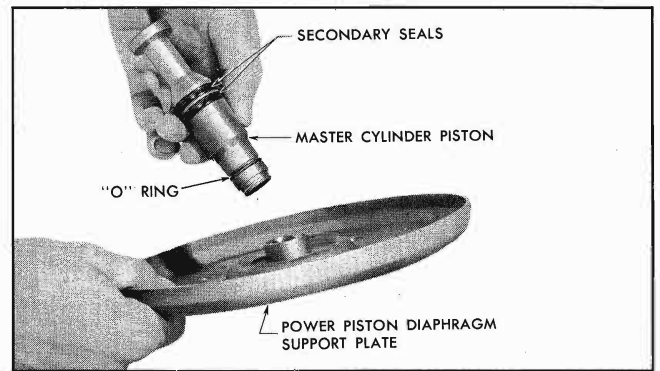

Fig. 5-M-11 Removing Master Cylinder Piston
10. Remove master cylinder piston to rolling diaphragm support plate "O" ring from master cylinder piston (Fig. 5-M-11).
2. Remove primary cup, check valve spring and retainer assembly, check valve, and check valve seat washer (Fig. 5-M-13).